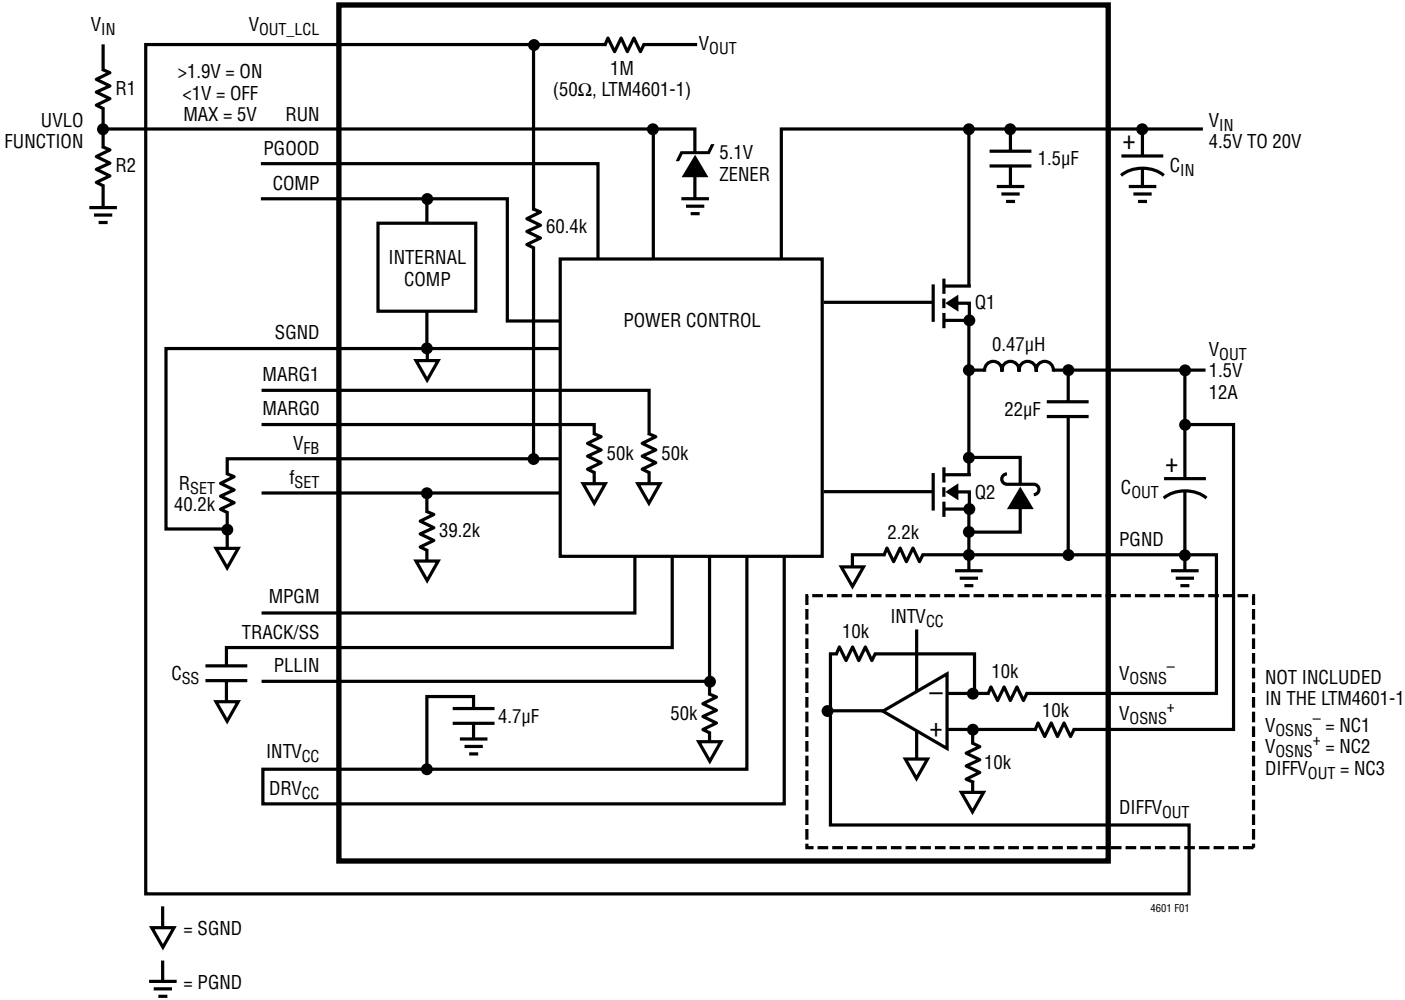

Figure 1. Simplified LTM4601/LTM4601-1 Block Diagram
**RUN (Pin A10):** Run Control Pin. A voltage above 1.9V will turn on the module, and when below 1V, will turn off the module. A programmable UVLO function can be accomplished by connecting to a resistor divider from  $V_{IN}$  to ground. See Figure 1. This pin has a 5.1V Zener to ground. Maximum pin voltage is 5V. Limit current into the RUN pin to less than 1mA.
**DECOUPLING REQUIREMENTS**  $T_A = 25^\circ C$ ,  $V_{IN} = 12V$ . Use Figure 1 configuration.
See Figure 1, Simplified Block Diagram.